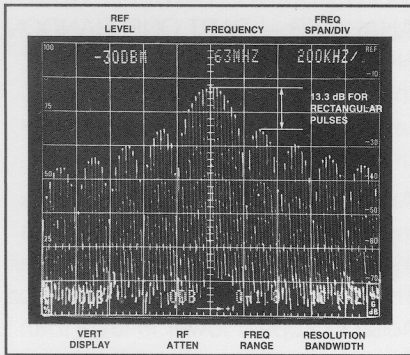
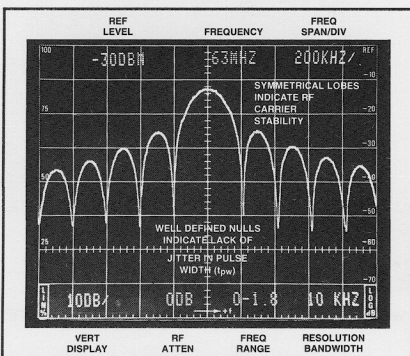

Figure 26. Frequency domain display of pulse waveform.
Figure 27. Envelope of pulsed signal
The same pulse waveform when displayed in the frequency domain would appear as shown in Fig. 26. Note that the pulse width ( $t_{pw}$ ) and
display shown in Fig. 27. We can see that the amplitudes in Fig. 26 lie within the area described by Fig. 27. The big question is "Why do we see discrete signals in Fig. 26 if the waveform is composed of an infinite series of frequencies?"
The answer lies in the fact that swept frequency analyzers only analyze a specific frequency at a specific time as the beam traces across the screen. Each time a pulse is generated, the analyzer will analyze the amplitude of the frequency component at the frequency being analyzed at that instant. If the pulse repetition period ( $t_r$ ) of the pulse was 1 ms and the analyzer was sweeping through the frequency spectrum at 1 ms/div, we would see one spectral line/div. If we slowed the sweep speed to 100 ms/div, we would obtain 100 spectral lines/div, which would clearly show the envelope display of Fig. 27. We need to remember that although we are varying the sweep speed, we are not changing the span of frequencies being analyzed, just the rate at which we are analyzing them. To compute the repetition rate from Fig. 26, determine the number of divisions/spectral line and multiply by the sweep speed/division.
1. For a rectangular pulse, the 1st sidelobe should be approximately 13.3 dB below the main lobe (see Fig. 26).
2. If the nulls are not well defined, the pulsewidth ( $t_{pw}$ ) is FM'ing (see Fig. 27).